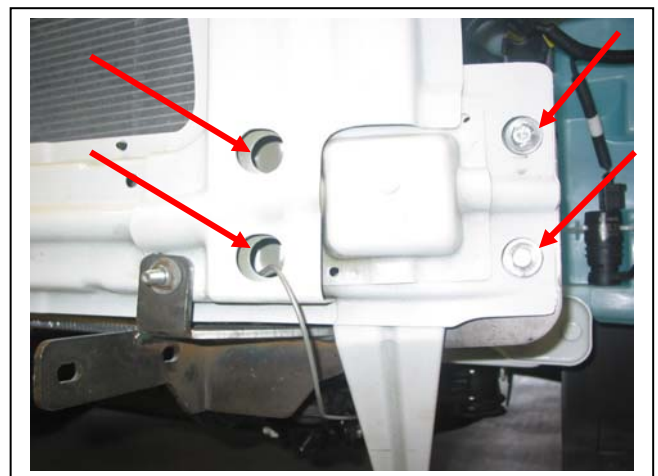

Figure 2: Remove four bolts (per side) from front of chassis rail.
4. Remove four 12mm head bolts from end of each chassis rail. **See figure 2.**